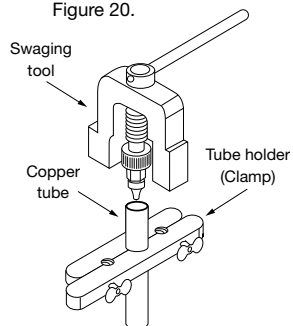

Figure 20
- Expand the copper tube by using a swaging tool set as in Figure 20.